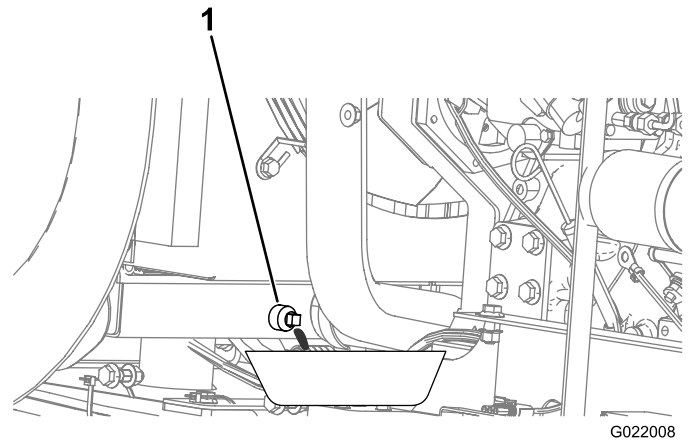

Figure 102
5. Place a drain pan under the drain plug (Figure 102).
8. Close the drain plug (Figure 102).
- C. Close the drain plug (Figure 102).
- H. Close the drain plug (Figure 102).